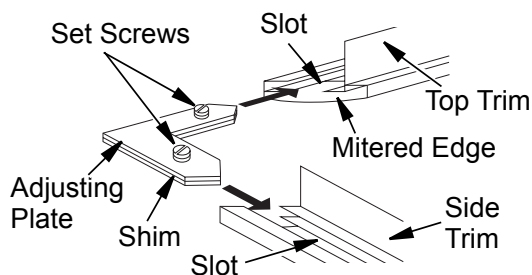

Figure 14 - Assembling Perimeter Trim
- Slide other end of adjusting plate/shim in slot on mitered edge of side trim (see **Figure 14**).
- Align shim under adjusting plate as shown in **Figure 14**.
- Slide one end of adjusting plate/shim in slot on mitered edge of top trim (see **Figure 14**).